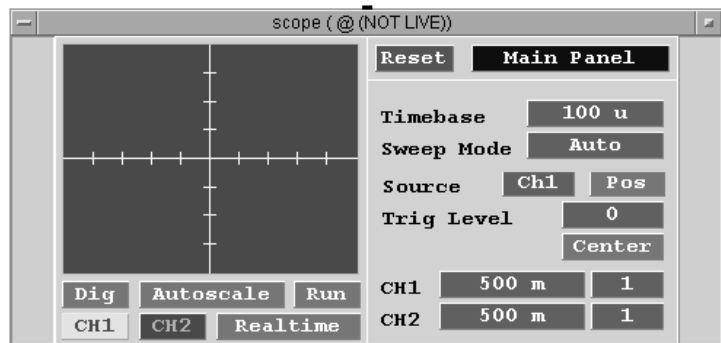

Figure 87 Selecting **scope(@(NOT LIVE))**
- 3 Place the outline of the scope panel and click to place it. The display should look similar to Figure 87.